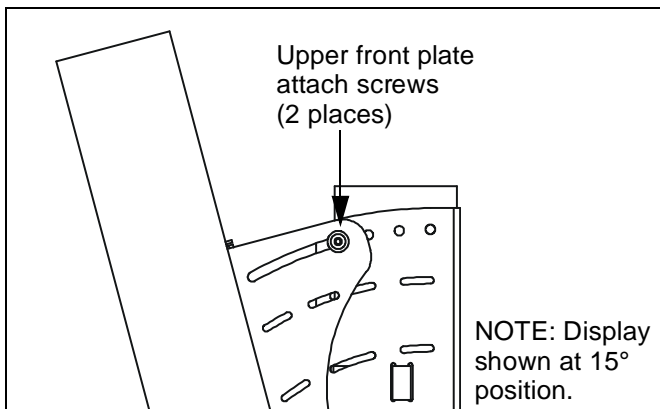

Figure 10: Tilt Adjustment
- Slightly loosen upper front plate attach screws (See Figure 10). Do NOT remove screws.